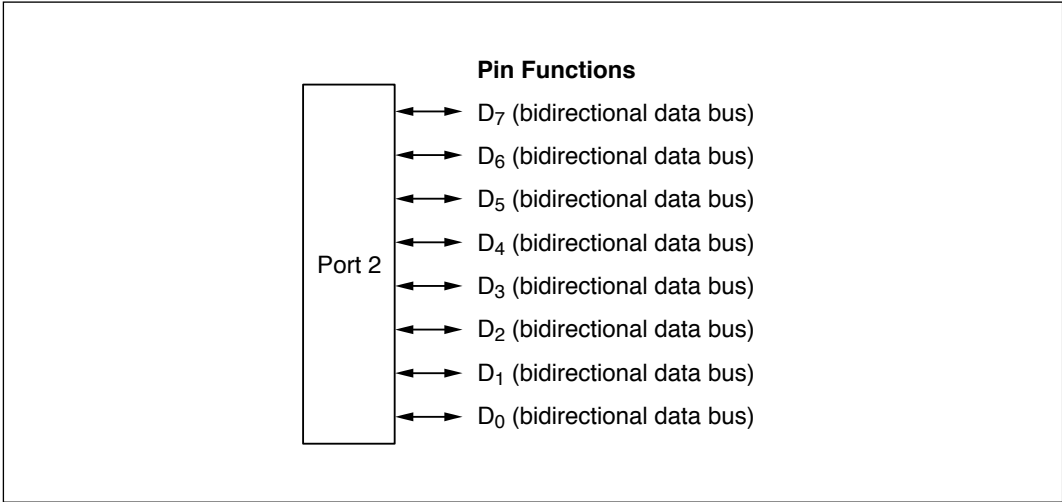

Figure 9-10 Pin Functions in Modes 1, 3, 4, 5, and 6
(1) Pin Functions in Modes 1, 3, 4, 5, and 6: The settings in P2DDR are ignored. Port 2 automatically becomes a bidirectional data bus. Figure 9-10 shows the pin functions in modes 1, 3, 4, 5, and 6.